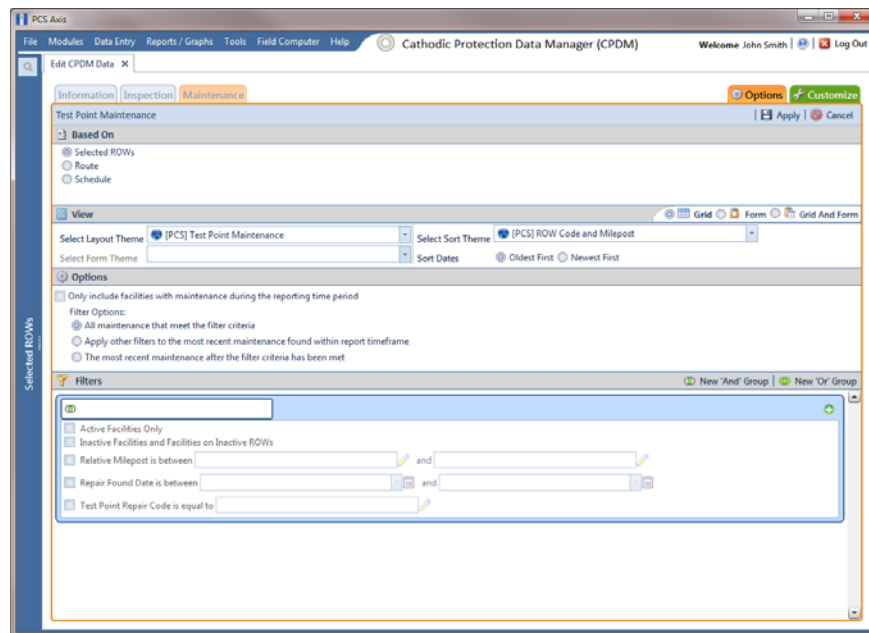

Figure 7-44. Options/Maintenance Grid
- 3 Click the **Options** tab **Options** to open the *Options* page (Figure 7-44).